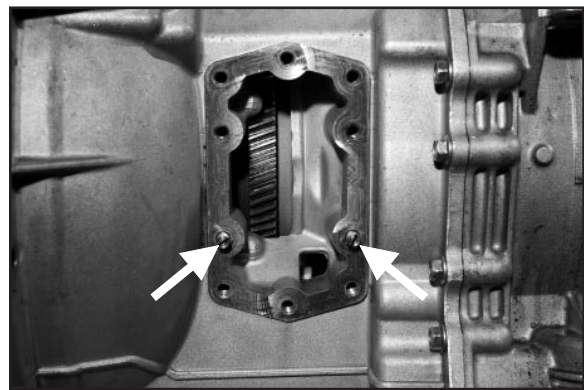

Fig. 8
8. Using a screwdriver, install the dowel pins until they bottom out (**Fig. 8**) (Refer to page 19 for correct location and use).